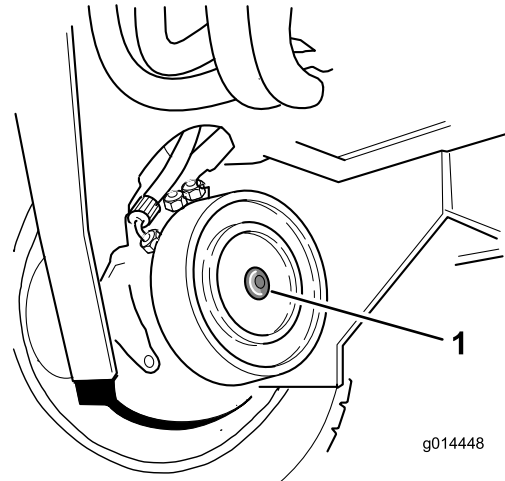

Figure 35
2. Identify the right front wheel motor disc brake assembly and remove the hex plug (Figure 35).